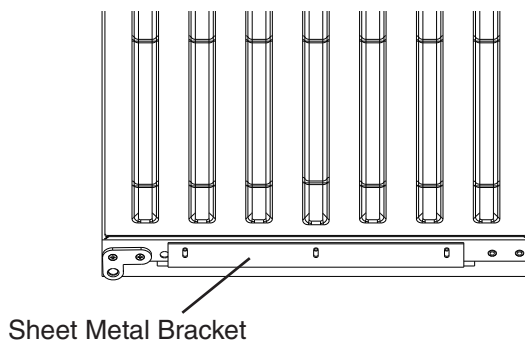

Fig. 15
- 3) Adjust the sheet metal bracket so that it is flush with the bottom of the door. See Fig. 15.